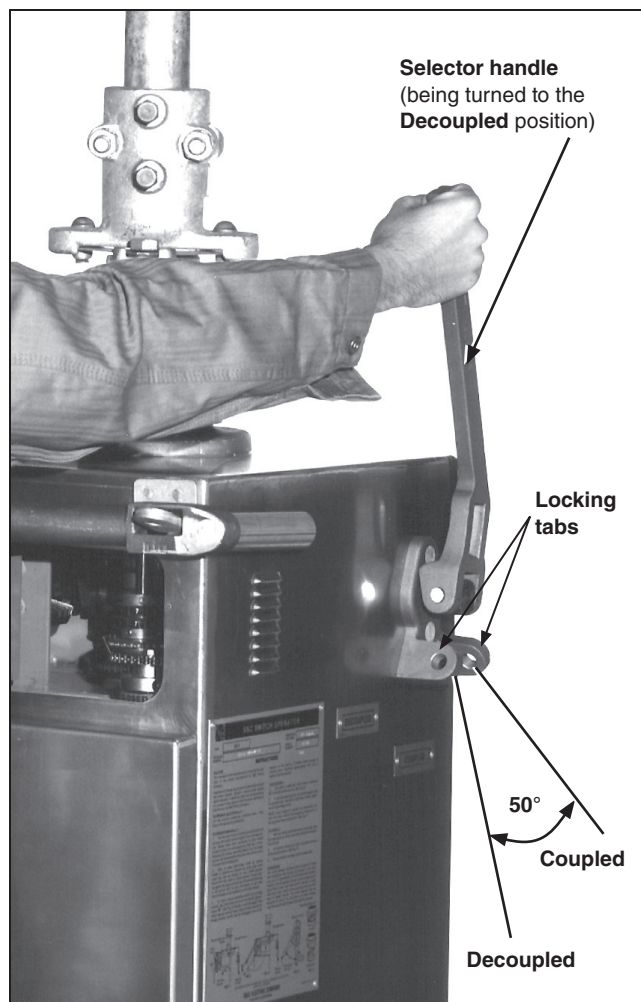

Figure 5. Selector handle operation.
- STEP 1.** Swing the selector handle upright and slowly rotate it clockwise 50 degrees to the **Decoupled** position. See Figure 5. This decouples the switch operator mechanism from the switch operator output shaft.